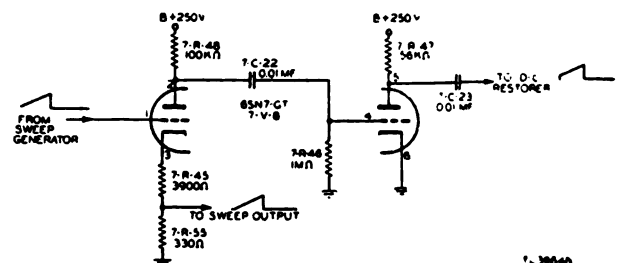

Figure 110. Sweep amplifier, simplified schematic diagram.
e. SWEEP AMPLIFIER. (1) The sweep amplifier stage (fig. 110) must help maintain a linear voltage sawtooth and provide sufficient gain to operate effectively the sweep output tubes 7-V-10